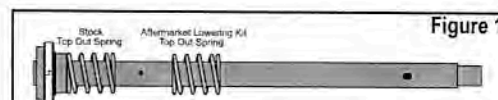

Figure 1
- If your bike is currently equipped with any type of fork lowering kit, such as a standard Progressive Suspension lowering kit or other, You **MUST** remove that kit before installing this Drop-In Kit. The Drop-In fork kit is designed to work **ONLY** with the Stock fork rebound or top out springs. Figures 1 & 2